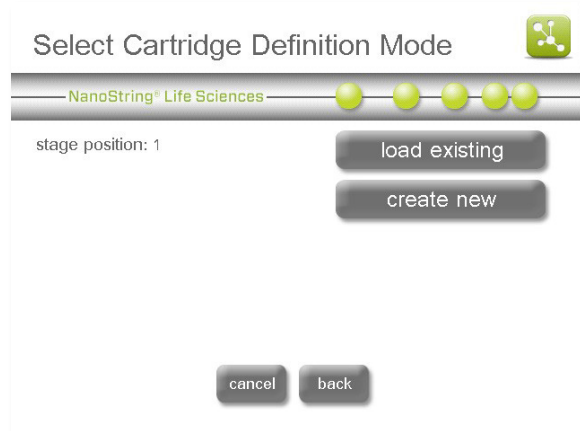

Figure 85: The 'Select Cartridge Definition Mode' screen.
- The 'Select Cartridge Definition Mode' screen will appear (**Figure 85**).